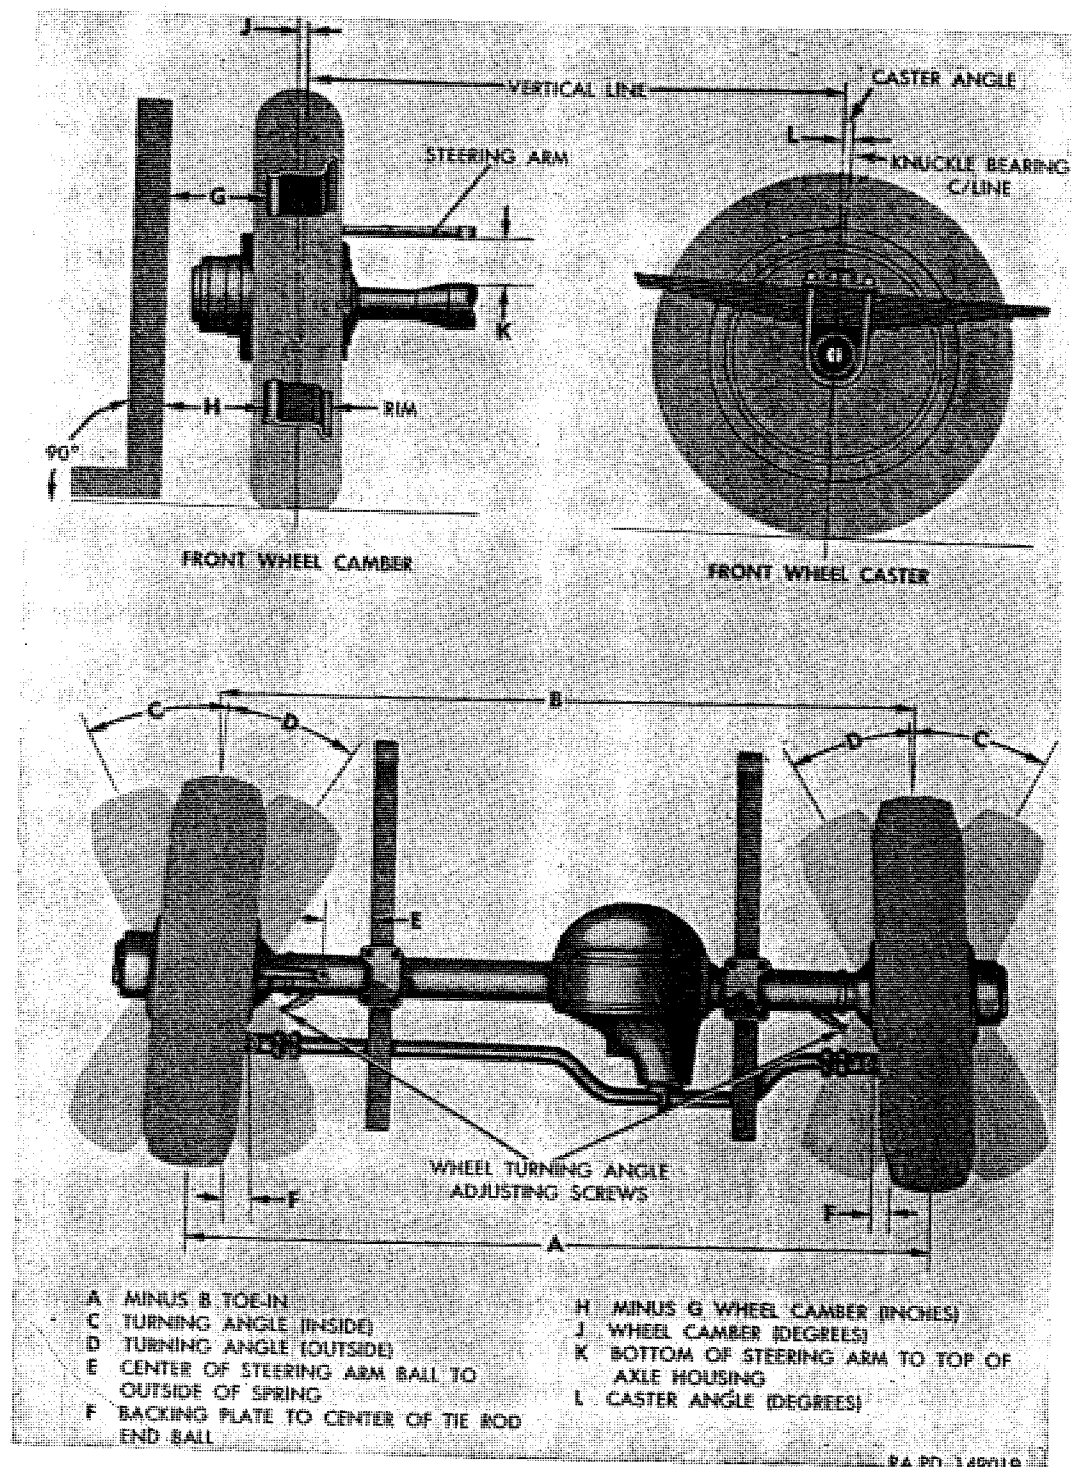

Figure 225. Front wheel and axle alignment chart.
b. Caster. Front axle caster (L, fig. 225) is the inclination of the centerline through the upper and lower steering knuckle support trunnion bearings toward the rear of the vehicle. Caster is established by design; therefore no adjustment can be made. The axle is given
c. Camber. Camber is the sidewise inclination of the front wheels. Positive camber is the outward inclination of the wheels as viewed from the front of the vehicle; that is, the wheels are farther apart at the top than at the bottom (H—G, fig. 225). Camber is established by design; therefore no adjustment can be made. A bent axle housing, bent steering knuckle, loose steering knuckle support trunnion bearings, or loose wheel bearings will affect camber. Unequal camber will cause vehicle to pull toward side having most camber. Camber may be measured with a square and rule in manner illustrated in figure 225. Camber dimensions given in *f* below are for straight-ahead position only and must be checked with axle installed on vehicle.
d. Toe-in. Toe-in is the amount which the front wheels are closer together at the front than at the rear (A—B, fig. 225). An adjustable tie rod, connecting the two steering knuckle supports, is used to adjust toe-in. Camber causes both wheels to tend to turn outward from the vehicle; however, by adjusting tie rod to give wheels proper toe-in, the tendency to turn outward is counteracted and the wheels roll straightahead with no scuffing action on tires. Toe-in is affected by loose wheel bearings, bent axle housing, bent steering knuckle, loose steering knuckle support trunnion bearings, or a bent or improperly adjusted tie rod. Improper toe-in causes excessive tire wear or scuffing. Unequal toe-in may cause the vehicle to pull toward the side having the least toe-in. When wheels are turned from straightahead to either right or left, toe-in changes, until at extreme right or left positions they are farther apart at the front than at the rear. This condition is termed toe-out. Always measure toe-in with wheels in straightahead position, by actually measuring A—B as shown in figure 225 and described in paragraph 220. Toe-in dimensions are given in *f* below.
e. Turning Angle. The turning angle is the maximum angle through which the front wheels may be turned to right or left from the straightahead position. This angle is greater for the inside wheel than the outside wheel on a turn. The turning angle for the inside wheel is shown as C, figure 225, and the turning angle for the outside wheel is shown as D, figure 225. Stop plugs, threaded and welded in housing, are provided to limit the angle through which the inside wheel can turn. Refer replacement and adjustment of stop plugs to ordnance maintenance personnel.